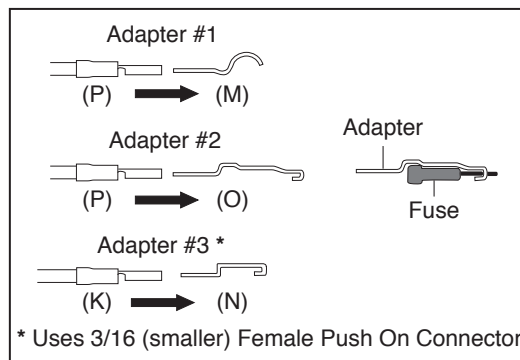

fig. 16
- c. Connection to the fuse terminal will depend on what type of fuse your vehicle uses. If your vehicle uses the barrel type fuse, use adapter #1. If you have the standard spade type fuses, use adapter #2. Many late model vehicles use a smaller spade type fuse which requires adapter #3 (fig. 16). If you use adapter #1 or #2 you will need to crimp on a 1/4" (14-16GA) female connector supplied in kit. If you use adapter #3 you will need to crimp on 3/16" (14-16GA) female connector supplied in kit.